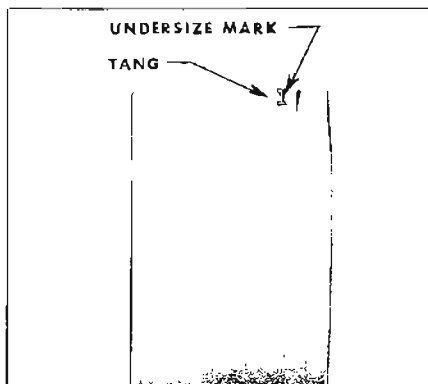

Figure 2-27—Location of Undersize Mark on Bearing Shell
7. If a new bearing is being selected, try a standard size, then each undersize bearing in turn until one is found that is within the specified limits when checked for clearance with Plastigage. NOTE: Each undersize bearing shell has a number stamped on outer surface on or near the tang to indicate amount of undersize. See Figure 2-27.
8. The described clearance with a new bearing is .0005" to .0025". If this clearance cannot be obtained with a standard size bearing, insert an undersize bearing and check again with Plastigage. **NOTE:** Each undersize shell has a number stamped on outer surface on or near the tang to indicate amount of undersize. See Figure 2-27.
7. Remove compression rings. Then remove oil ring by removing the two rails, spacer, and expander which are separate pieces in each piston third groove. See Figure 2-27.